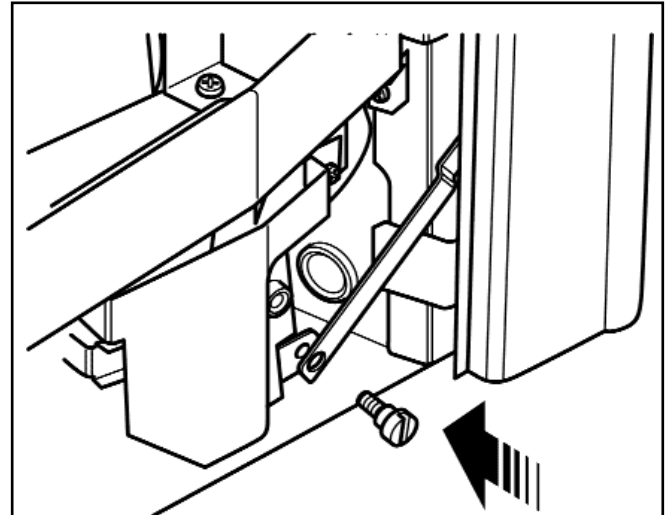

Figure 29. Shouldered screw.
2. Connect the control linkage to the control pivot plate using the shouldered screw and using a screwdriver (NOT finger tight only) (See figure 29).
5. Connect the control linkage to the control pivot plate using the shouldered screw and using a screwdriver (NOT finger tight only) (See figure 29).
5. Connect the control linkage to the control pivot plate using the shouldered screw previously removed and using a screwdriver (NOT finger tight only) (See figure 29).
3. Supplied with the fire is a self adhesive control position label. Peel the backing from the label and place as in figure 29.